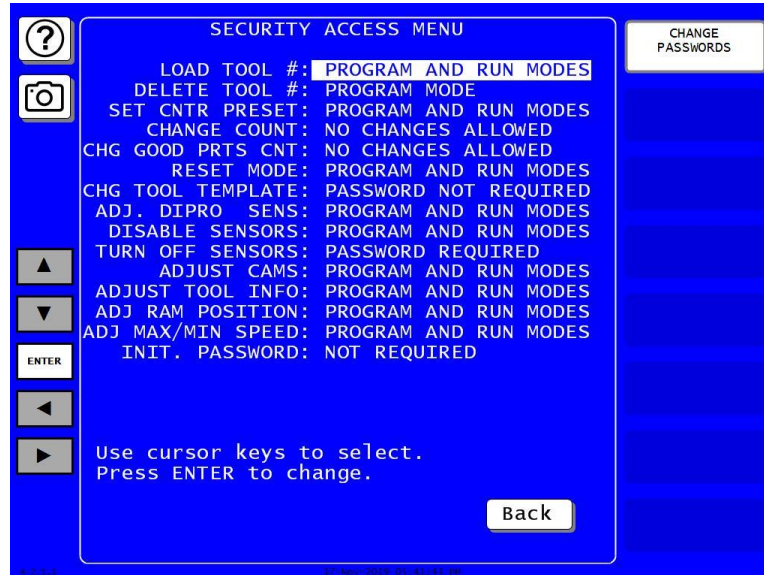
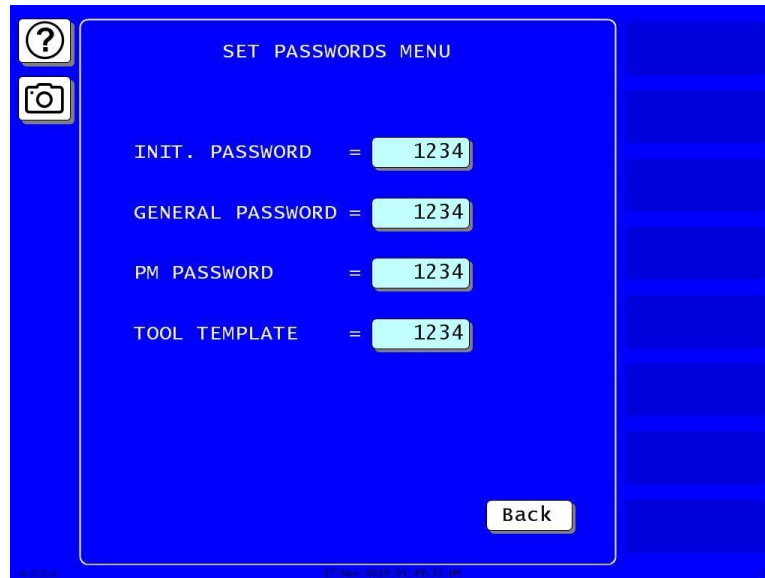

Figure 4-21. Security Access Menu
Figure 4-23. Set Passwords Menu
The SECURITY ACCESS item on the Main Initialization Menu allows you to control user access to SmartPAC PRO Servo operating modes and settings. You set user access on the Security Access Menu, which is shown in Figure 4-21.
1. Select SECURITY ACCESS on the Main Initialization Menu to display the Security Access Menu (Figure 4-21, page 92). Note that the factory settings allow all actions to be performed in both Program and Run modes.
1. On the Security Access Menu (Figure 4-21), press the CHANGE PASSWORDS button to display the Set Passwords Menu (Figure 4-23).